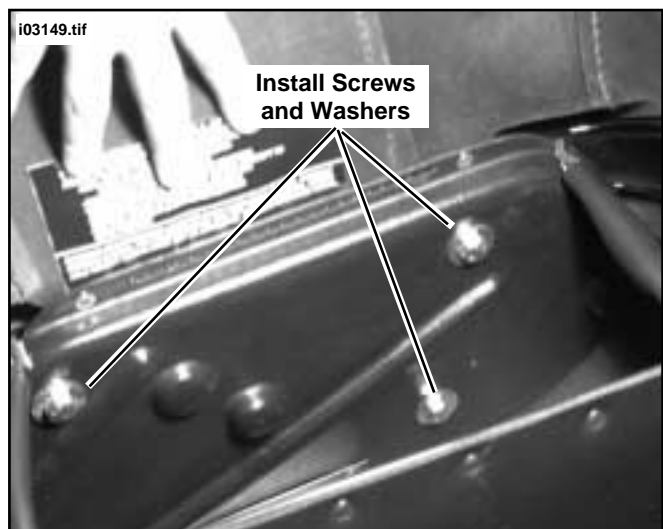

Figure 24. Install Right Saddlebag to Support Plate
2. See Figure 24. Repeat Step 1 for the right side. The right saddlebag only has three mounting locations, all on the vertical portion of the saddlebag plastic back. Finger-tighten all three cap screws first, then snug all three. Finally, tighten all three, being careful not to deform plastic, to 15 ft-lbs (20.3 Nm) maximum.